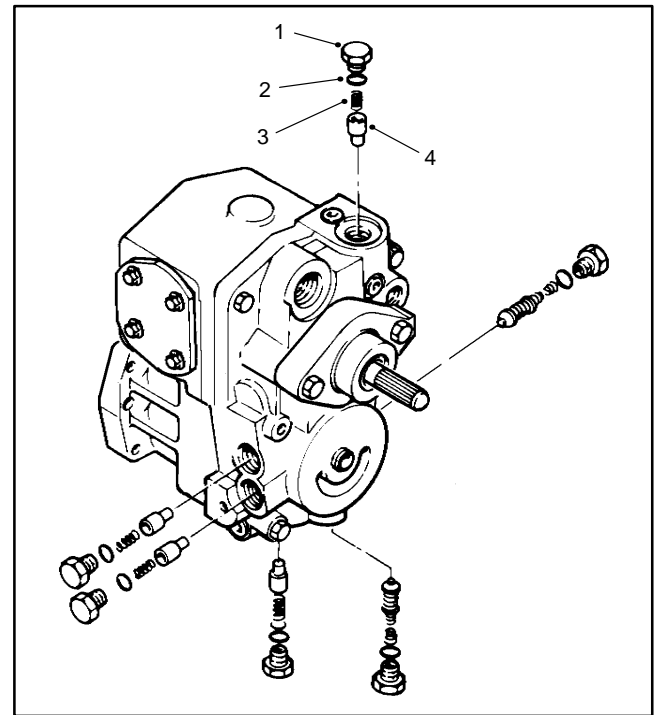

Figure 79
2. Remove the heat exchanger bypass valve hex plug (Fig. 79).